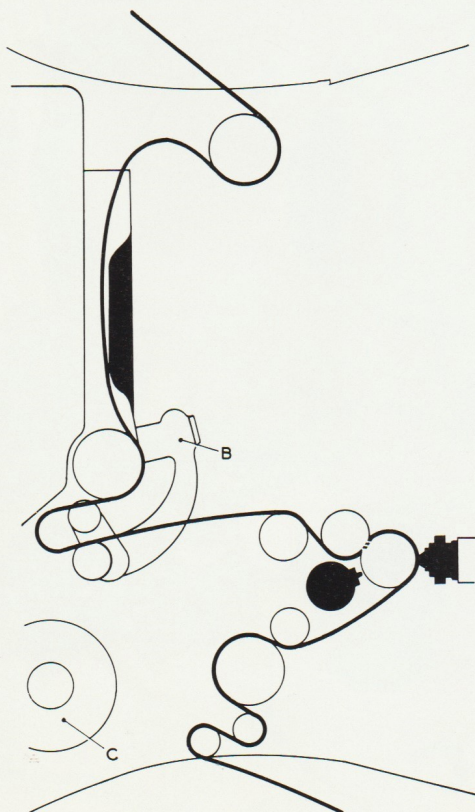

Fig. 3
Threading the film (Figs. 3 and 4)
- optical** soundhead only ... as Fig. 3